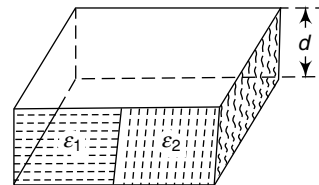

Fig. 1.56
28. Two dielectrics of equal size are introduced inside a parallel plate capacitor as shown in Fig. 1.56. How does the effective capacitance change?